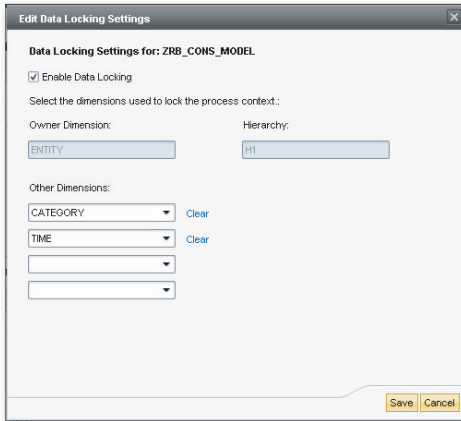

Figure 9.23 Configuring and Running Controls—Part B
2. Enable the work status settings for a model (Figure 9.23). The work status setting is enabled for a model from the WORK STATUS view under the features domain in the ADMINISTRATION workspace. You must set this before controls can be created and maintained for a model.